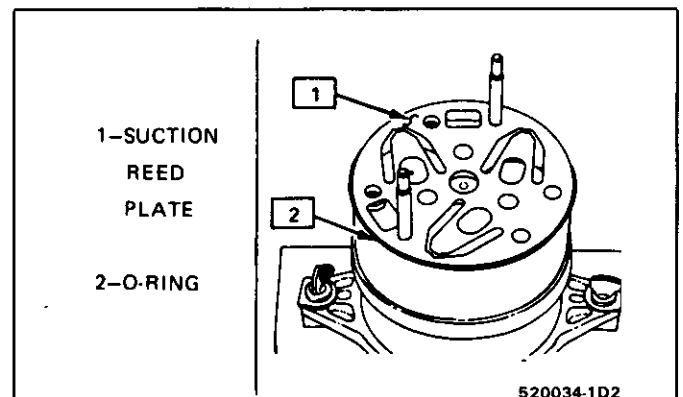

Fig. 33 Suction Reed Plate Assembled To Cylinder Assembly
3. Install suction reed plate over the J-33016 and guide pins as shown in Fig. 33.